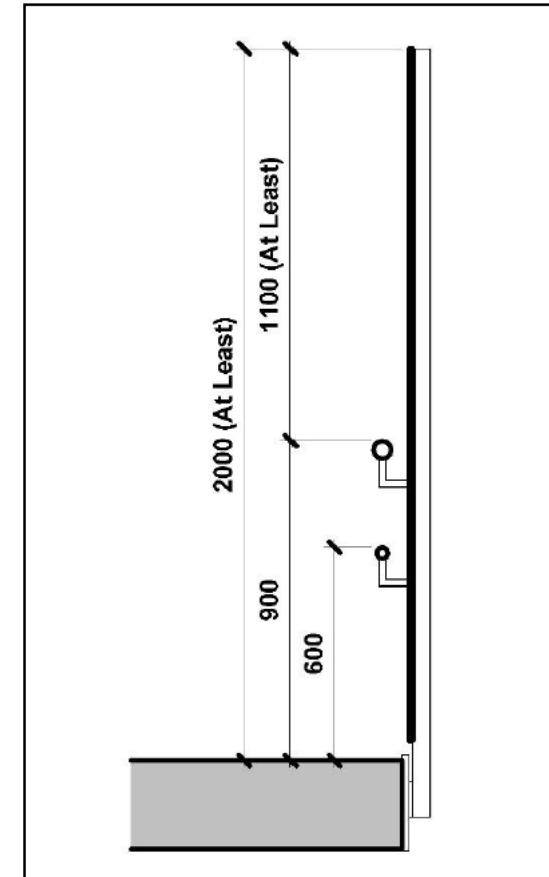

Fig. 2 Heights of guarding and handrails above landing level.
- 4.10 Therefore the guarding height to landings should be not less than 2000mm where there are horizontal double handrails as per Fig. 2 below.